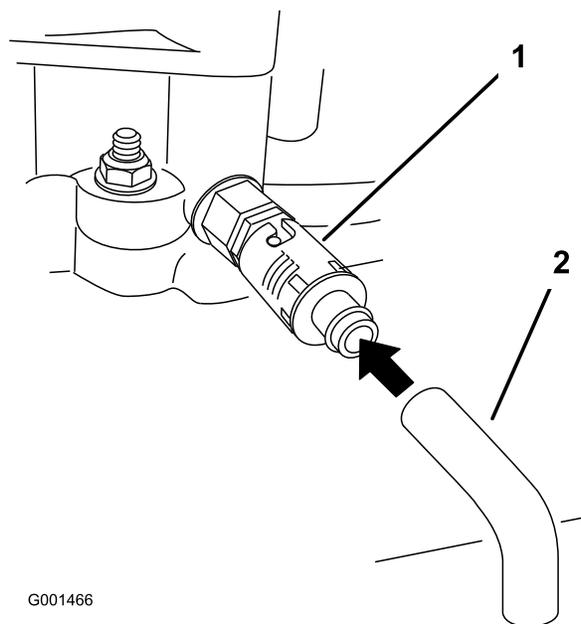

Figure 27
7. Remove the drain hose (Figure 27).
Note: Rotate oil drain valve to allow oil to drain (Figure 27).